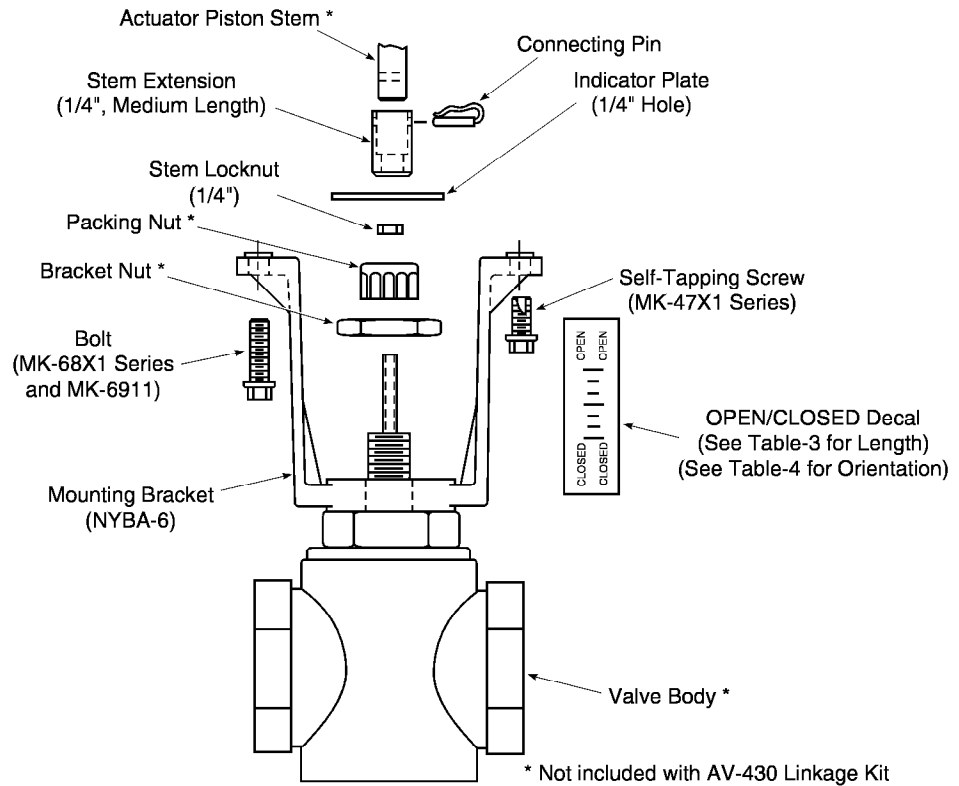

Figure-8 Assembly of MK-4700 and MK-6800 Series Actuators with VB-202, -212, -252, -304, -804, -807, -817, and VB-9323 (1-1/2" to 2") Series Valve Bodies.
- b. Position the mounting bracket onto the valve body. See Figure-8.